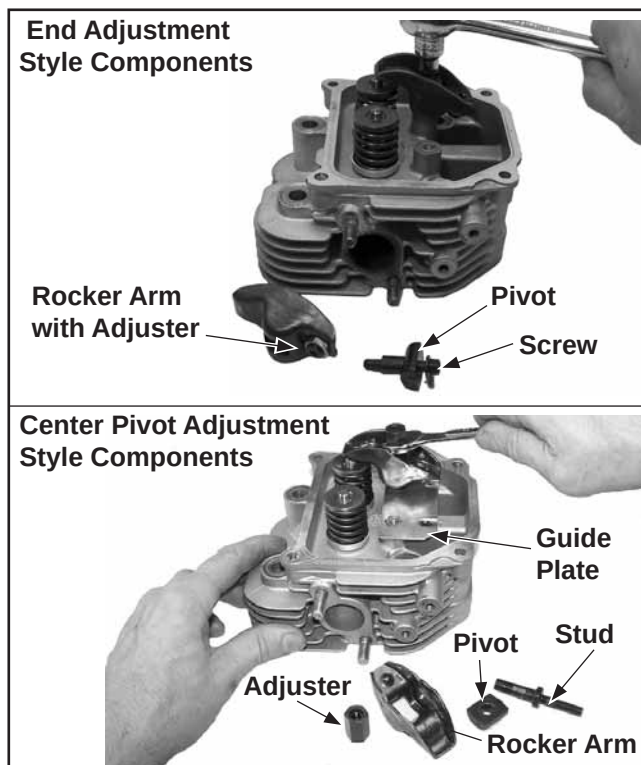

Figure 8-31. Removing Rocker Arm Assemblies.
1. Remove the two hex flange screws, rocker arm pivots and rocker arms with adjusters from the cylinder head. See Figure 8-31.